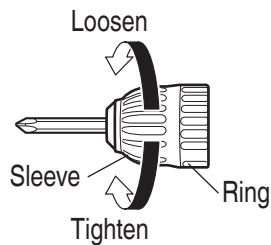

Fig. 8
- (1) After inserting a driver bit, etc. into the keyless drill chuck, firmly grasp the ring and tighten the sleeve by turning it toward the right (in the clockwise direction as viewed from the front) (See Fig. 8).
- (2) Dismounting the bit
Firmly grasp the ring and loosen the sleeve by turning it toward the left (in the counter-clockwise direction as viewed from the front) (See Fig. 8).